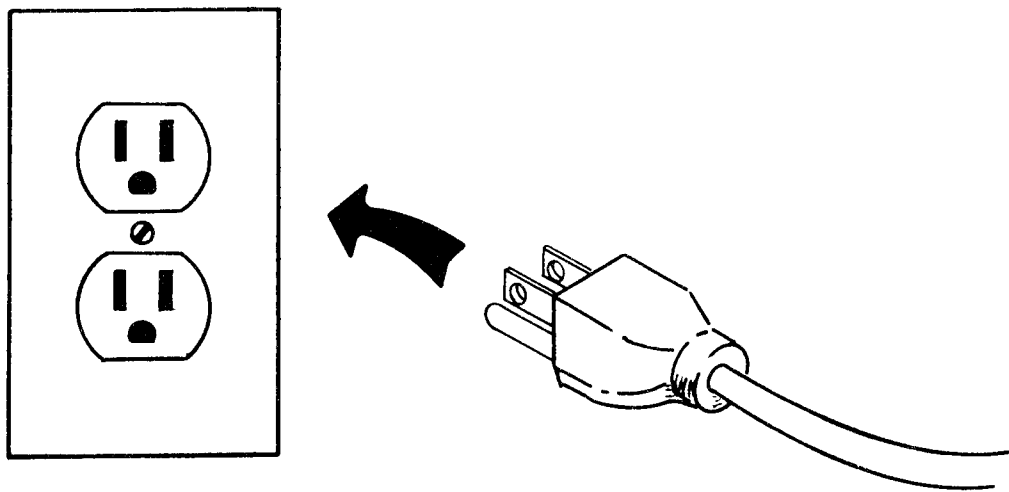

Figure 76. Plug Power Cord into Power Source
- d. Plug the power cord into a power source (see Figure 76).